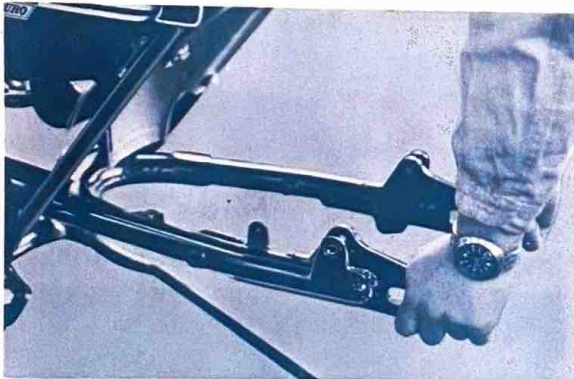

Fig. V-8-3
- 1) Check the play of the rear swing arm by shaking it from side to side, as shown in Fig. V-8-3, with the rear swing arm installed. If the play is excessive, replace the rear swing arm bushing or the rear swing arm shaft.